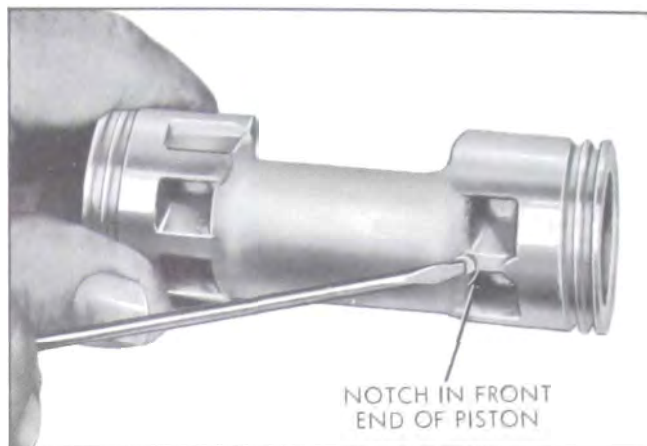

Figure 11-66—Piston Assembly
8. Remove piston rings, balls and shoe discs. Discard the shoe discs. Examine piston balls, if satisfactory for reuse, place in parts tray with proper end of piston. The front end of piston has identifying notch in casting web. See Figure 11-66.